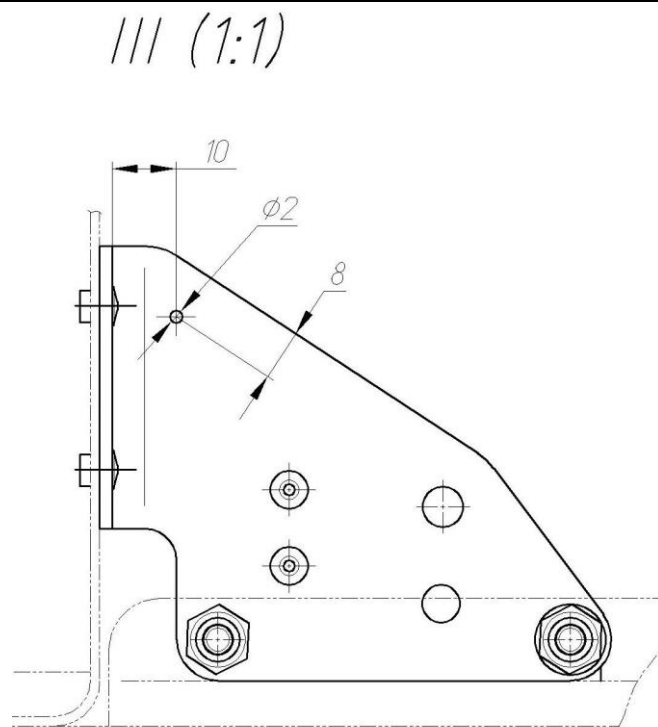

Fig. 4
- 3.3.1 Drill ø2mm holes for safety wire (see fig. 4) on both sides of the additional supports of the control sectors. Remove the chips.